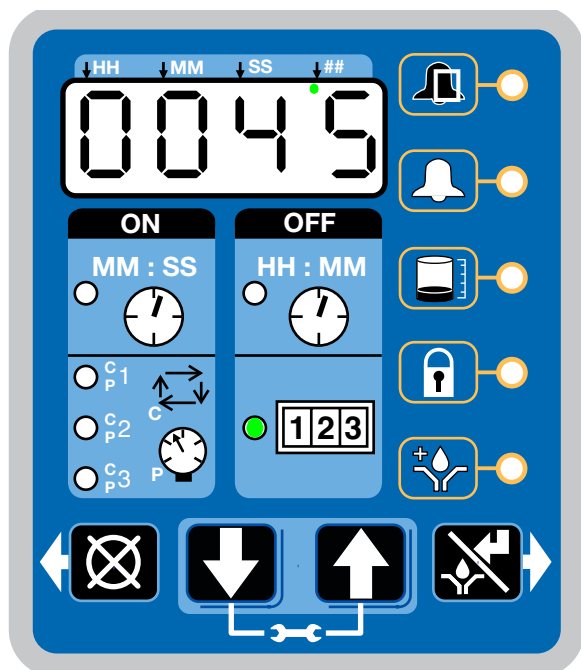

FIG. 53
- The LED next to 1-2-3 illuminates (FIG. 53).
The example shown in FIG. 53 shows the remaining number of machine counts is 0045.